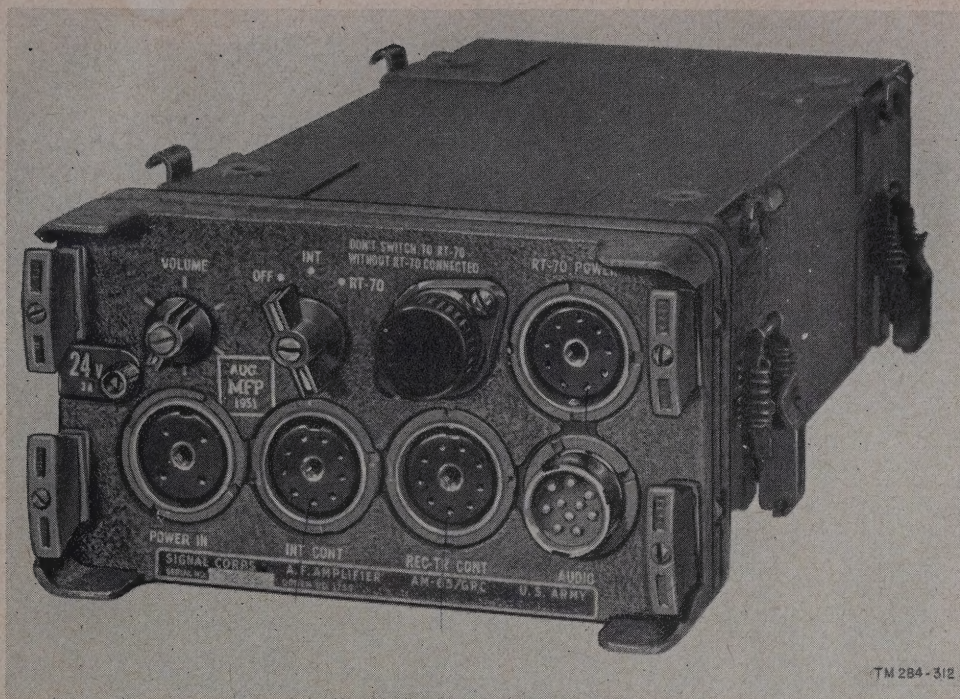

Figure 7. AF Amplifier AM-65/GRC.
a. AF Amplifier AM-65/GRC (fig. 7) is a common component of all the radio sets described in this manual. It is generally referred to as the interphone amplifier, because of its function in the interphone system of the radio sets. It serves